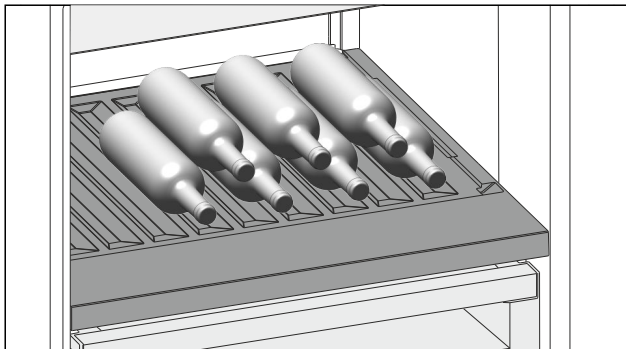

Fig. 147 Example illustration
- ▶ Place bottles in the back row with their bases against the back wall. (see Fig. 147)